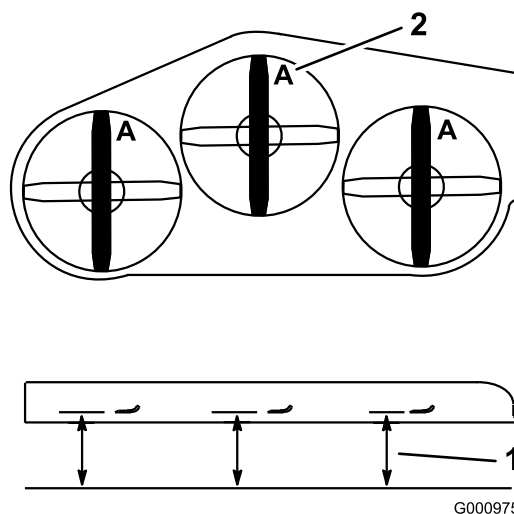
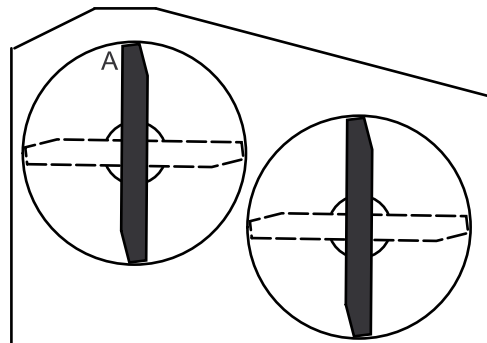

Figure 75
Figure 76
3. With the machine on level surface, position one blade front-to-rear. Measure at **A** and from level surface to the cutting edge of the blade tips (Figure 75). For 36 inch mower decks use Figure 76.